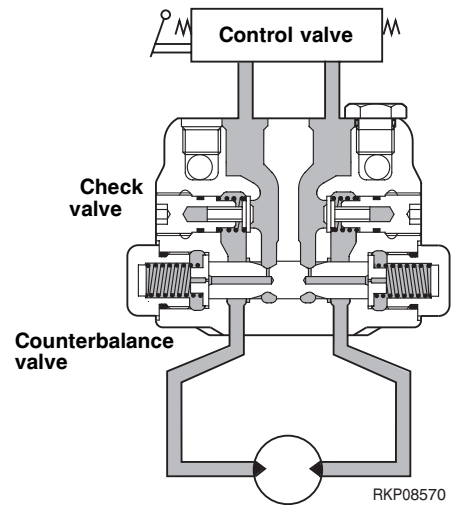

Fig. 1
- The brake valve consist of a check valve and counterbalance valve in a circuit as shown in the diagram on the right. (Fig. 1)